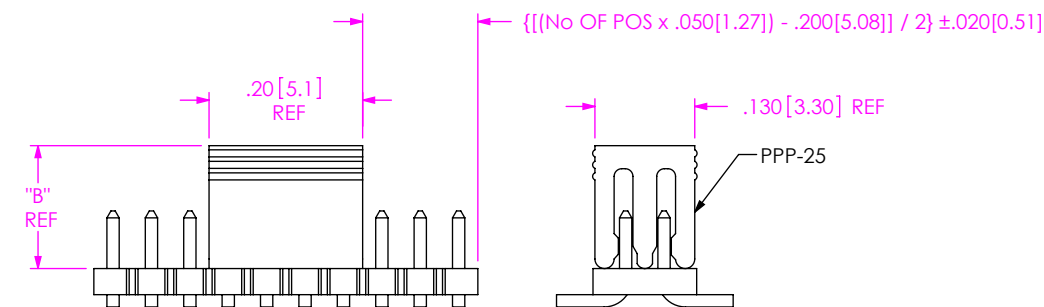

FIG 5
- P: PICK AND PLACE PAD (USE PPP-25) (AVAILABLE ON POSITIONS 04 THRU 50) (SEE FIG 5, SHT 2 & FIG 7, SHT 3) (USE PPP-25-NT FOR TAPE & REEL)